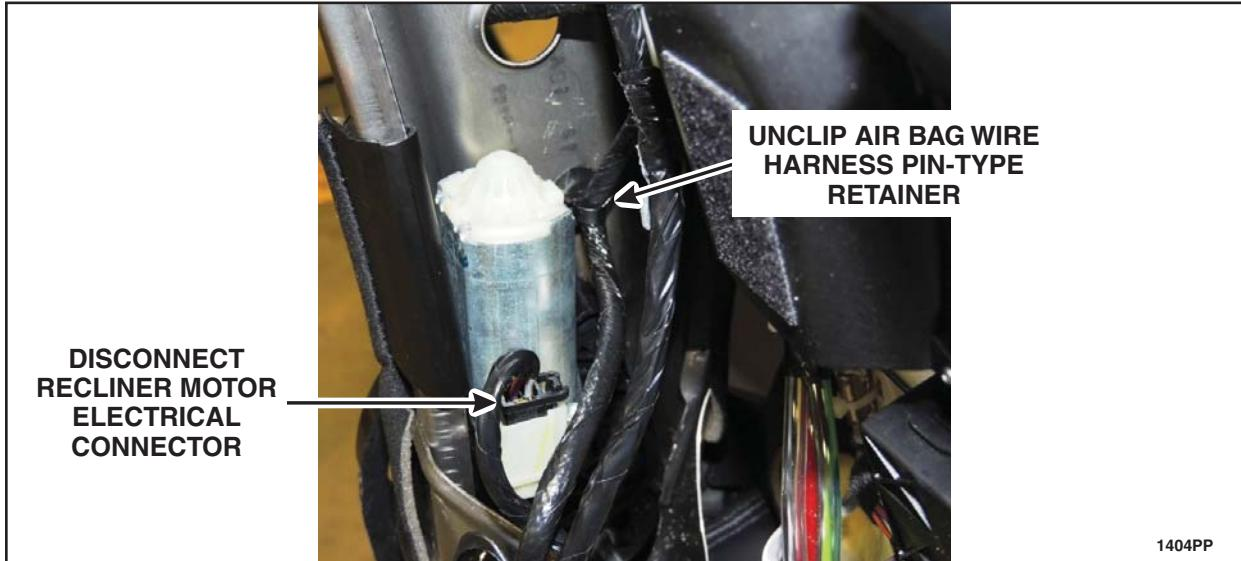

FIGURE 10
13. Disconnect the recliner motor electrical connector and unclip the air bag wire harness from the backrest frame. See Figure 10.